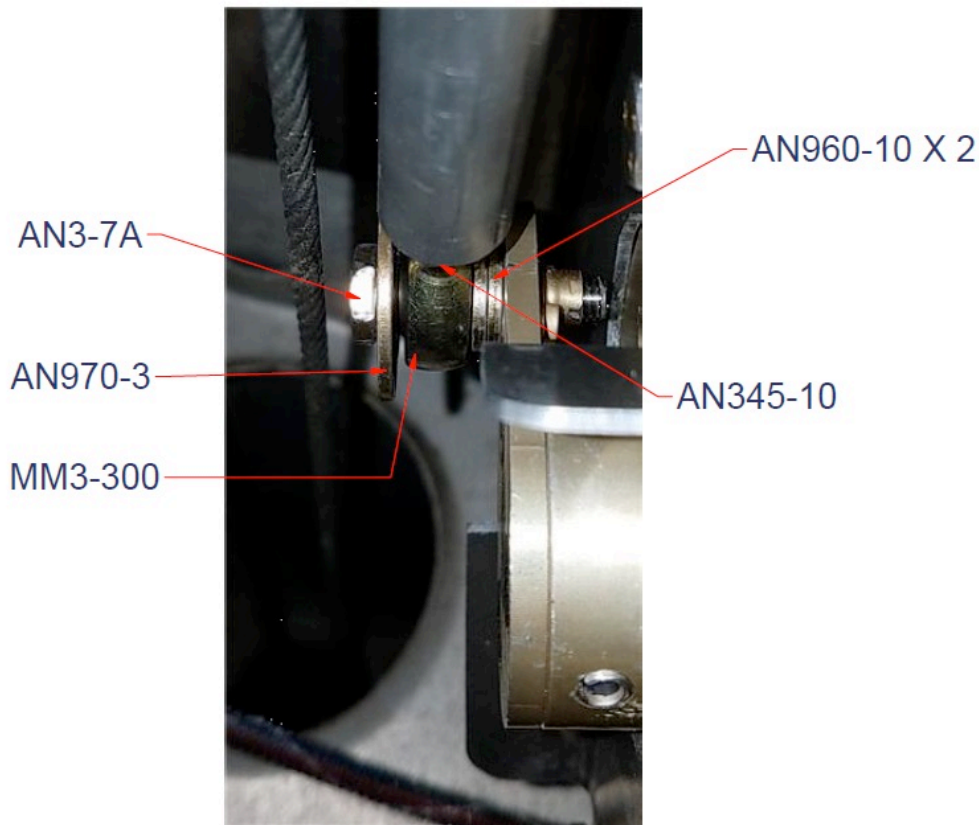

Figure 3-8
- 2.33. Attach the pushrod assembly to the Cessna 172 Roll Servo Arm (P/N 7200-091) as shown in Figure 3-8 and torque to 20-25 in-lb.